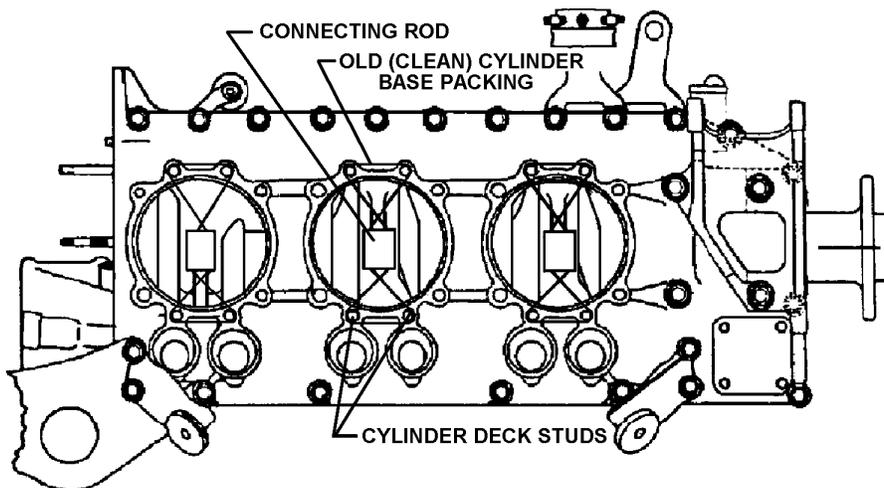

FIGURE 6-15A. CONNECTING ROD SUPPORT
1. Loosen and remove cylinder drain tubes (42). Remove and discard drain tube seals (43). Remove drain tube fittings (18).
2. Remove attaching hardware (30,31,32, 33) and remove rocker covers (28, 29) from all cylinders. Remove and discard gaskets (27).
3. Position the crankshaft so the piston is at top dead center and both intake and exhaust valves of cylinder to be removed are closed. Bend tab of washers (25) down and remove nuts (26), tab washers (25) and retainers (24). Remove rocker arms (19) and shafts (23) from cylinder studs. Discard tab washers (25), nuts (26), rocker shafts (23) and retainers (24). Withdraw pushrods (41) from housings.
4. Place the engine in the inverted position by rotating the engine stand. Remove all pushrod housings (36) by pushing in toward the crankcase while lifting the cylinder end. Remove springs (38), washers (39) and seal (37). Discard all seals (37, 40) and springs (38).
7. Remove piston pin (50) and piston (55) from connecting rod. Remove the cylinder base packing (1) from the cylinder skirt and install it in a figure "8" pattern around the cylinder deck studs and connecting rod for support. See Figure 6-15A, "Connecting Rod Support." Remove all cylinders and pistons using steps "1" through "6". Discard all piston pins (50), pistons (55), piston rings (49, 51, 52, 53).
8. Using a retrieval magnet, remove all hydraulic tappets (48) from the crankcase tappet bores. Discard hydraulic tappets (48).